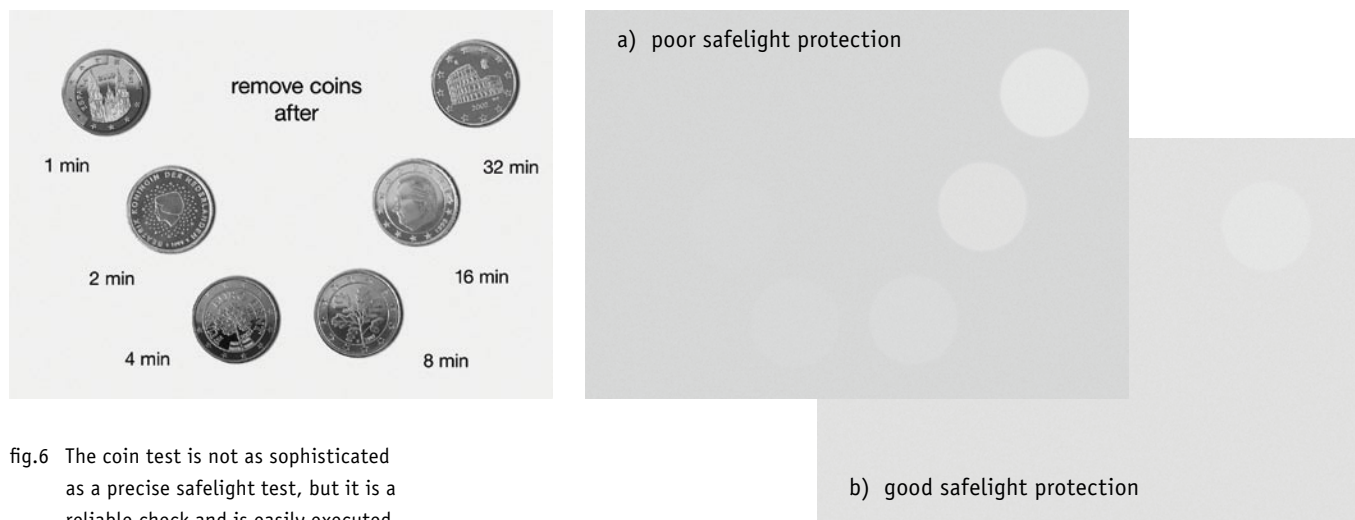

fig.6 The coin test is not as sophisticated as a precise safelight test, but it is a reliable check and is easily executed.
2. Still in the dark, put the paper on the work surface, right under your safelight, and randomly distribute six coins on the paper, as seen in fig.6.